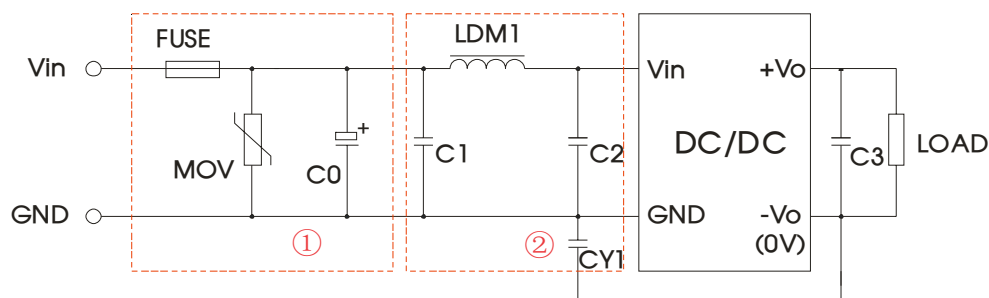

Fig. 3
Note: ①.Part ① in the Fig. 3 is used for EMS test and part ② for EMI filtering; selected based on needs.
②.If there is no recommended parameters, the model no require the external component.